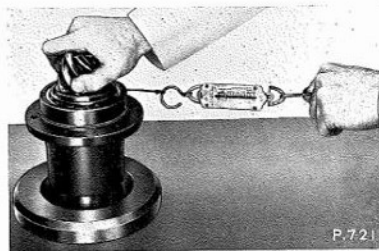

Fig. G.12. Checking the bevel pinion bearing preload, using a spring balance
- (a) Wrap a length of cord around the sleeve, with one end anchored by a split pin located in one of the sleeve setscrew holes, then with a pound scale attached to the other end, pull on a line tangential to the outer diameter of the sleeve (see Fig. G.12).